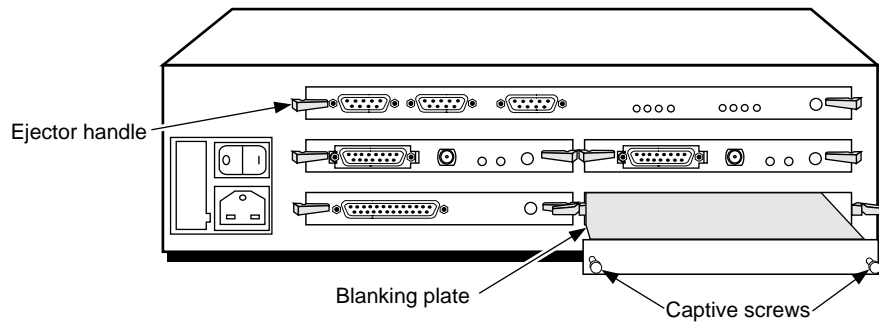

Figure 2-3 Removing a Blanking Plate
- 1 Remove the blanking plate (if one is in place) from the slot you have selected for the Ethernet module (see Figure 2-3).